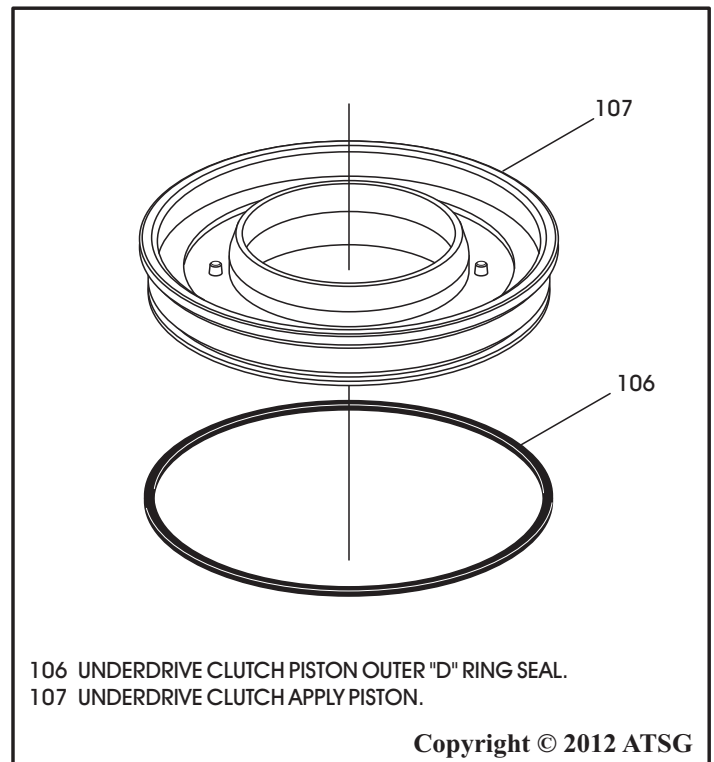

Figure 146
5. Install new underdrive clutch outer "D" ring seal onto underdrive clutch apply piston, as shown in Figure 146, and lube with a small amount of Trans-Jel®.